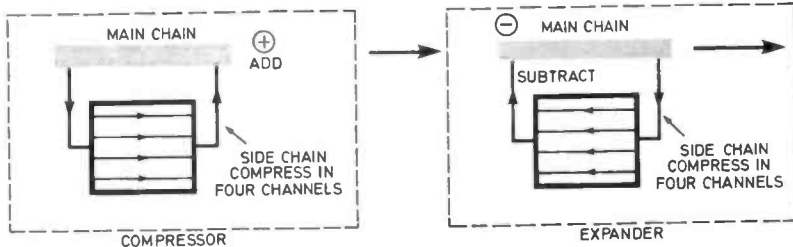

Fig. 2.4. Basic Dolby A system.
Accordingly, in the professional (A) Dolby system the low level side chain is divided into four separate parallel channels each of which handles a separate frequency band (see Fig. 2.4). What is more, each of these channels works independently of the others, so that a low level, high pitched signal (such as quiet violins) will be routed through only the high frequency side chain channel and low level, low frequency signals (such as quiet basses) will be routed through only the low frequency channel of the side chain.